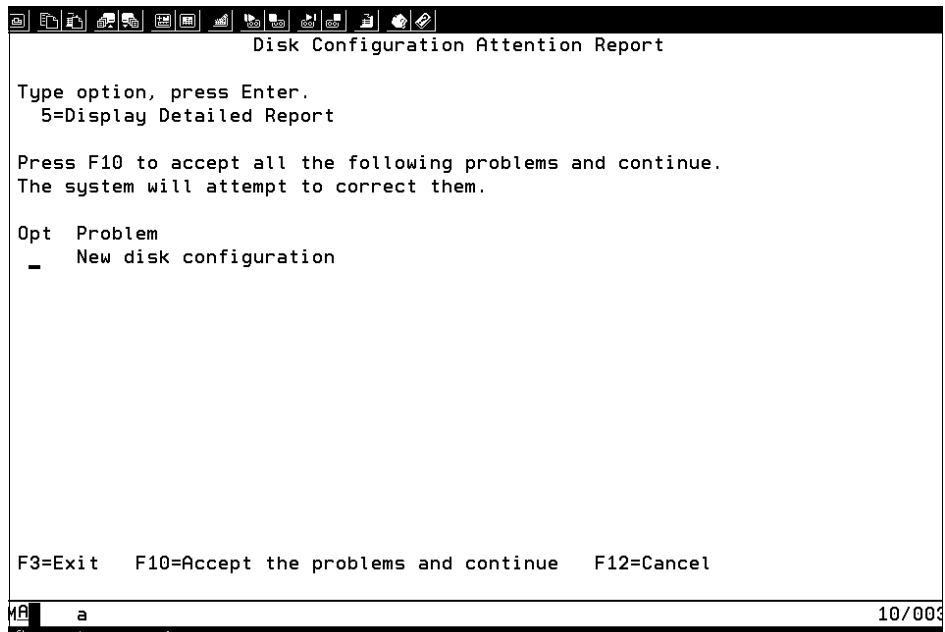

Figure 7-57 Attention Report
11. The Disk Configuration Attention Report display might appear on the console. Figure 7-57 on page 302 shows the report for a new disc configuration.